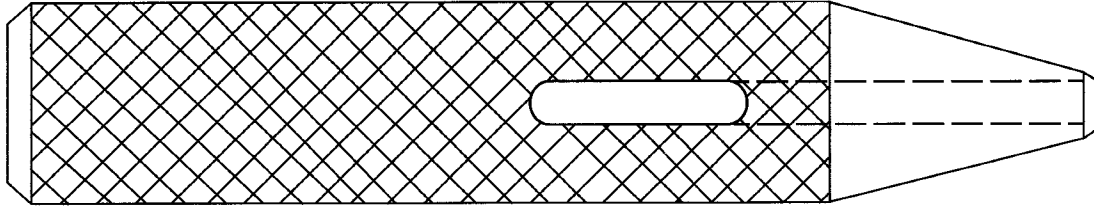

Figure 8. Hollow punch
8. Figure 8 shows a hollow punch which was made from 0.9% carbon steel.
- (c) If the punch in Figure 8 was made from 0.3% mild steel in the workshop, the heat-treatment process would have to be different to have it functioning as a tool.